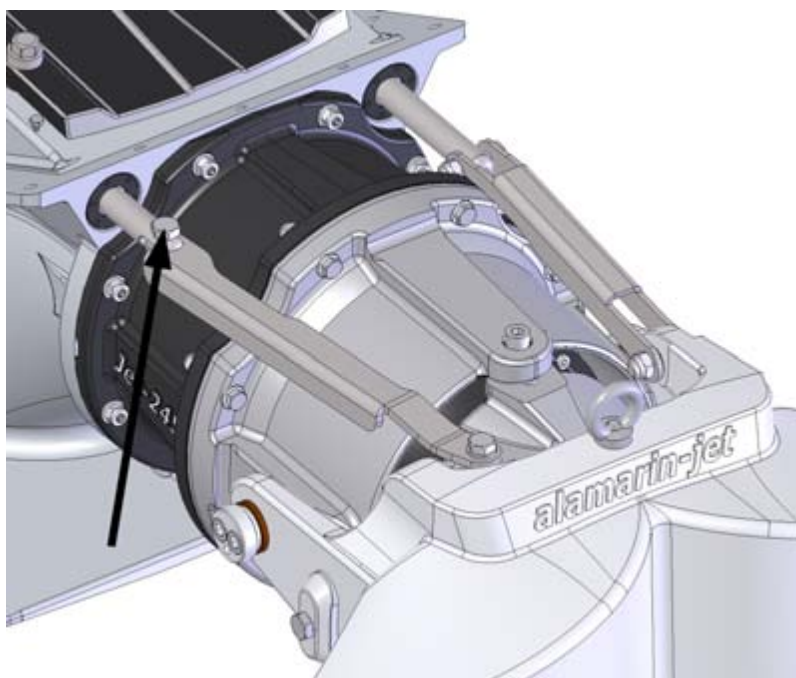

Figure 89. Connection between the control cylinder connecting rod and piston rod
2. Remove the connection between the control cylinder connecting rod and piston rod (figure 89).